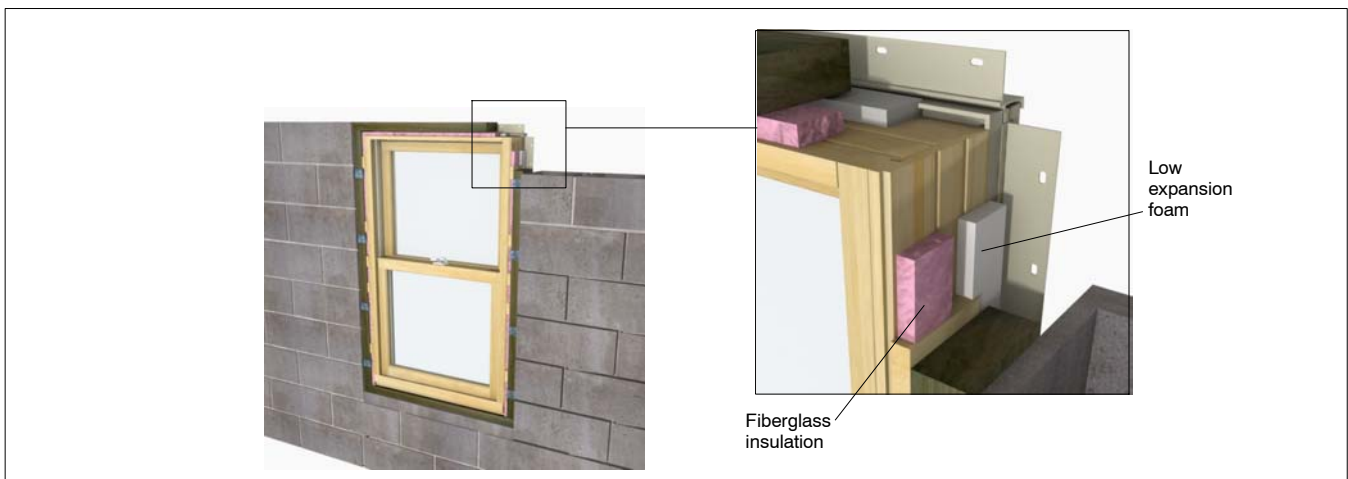

Figure 11: Insulating the rough opening
4. Apply a 1" - 2" (25-51) thick bead of low expansion foam insulation on the back side of the nailing fin, brick mould casing or other trim. Do not apply too much as it is possible to bow the jambs. Now insulate loosely around the window with fiberglass insulation. See figure 11.
5. **Interior and mullion trim:** Install mullion trim after interior trim or casing is applied. On Wood Ultimate Double Hung units, be sure to use nails and staples that are no longer than 3/4" (19). Place fasteners at least 1" (25) from the edge of interior jamb liner.